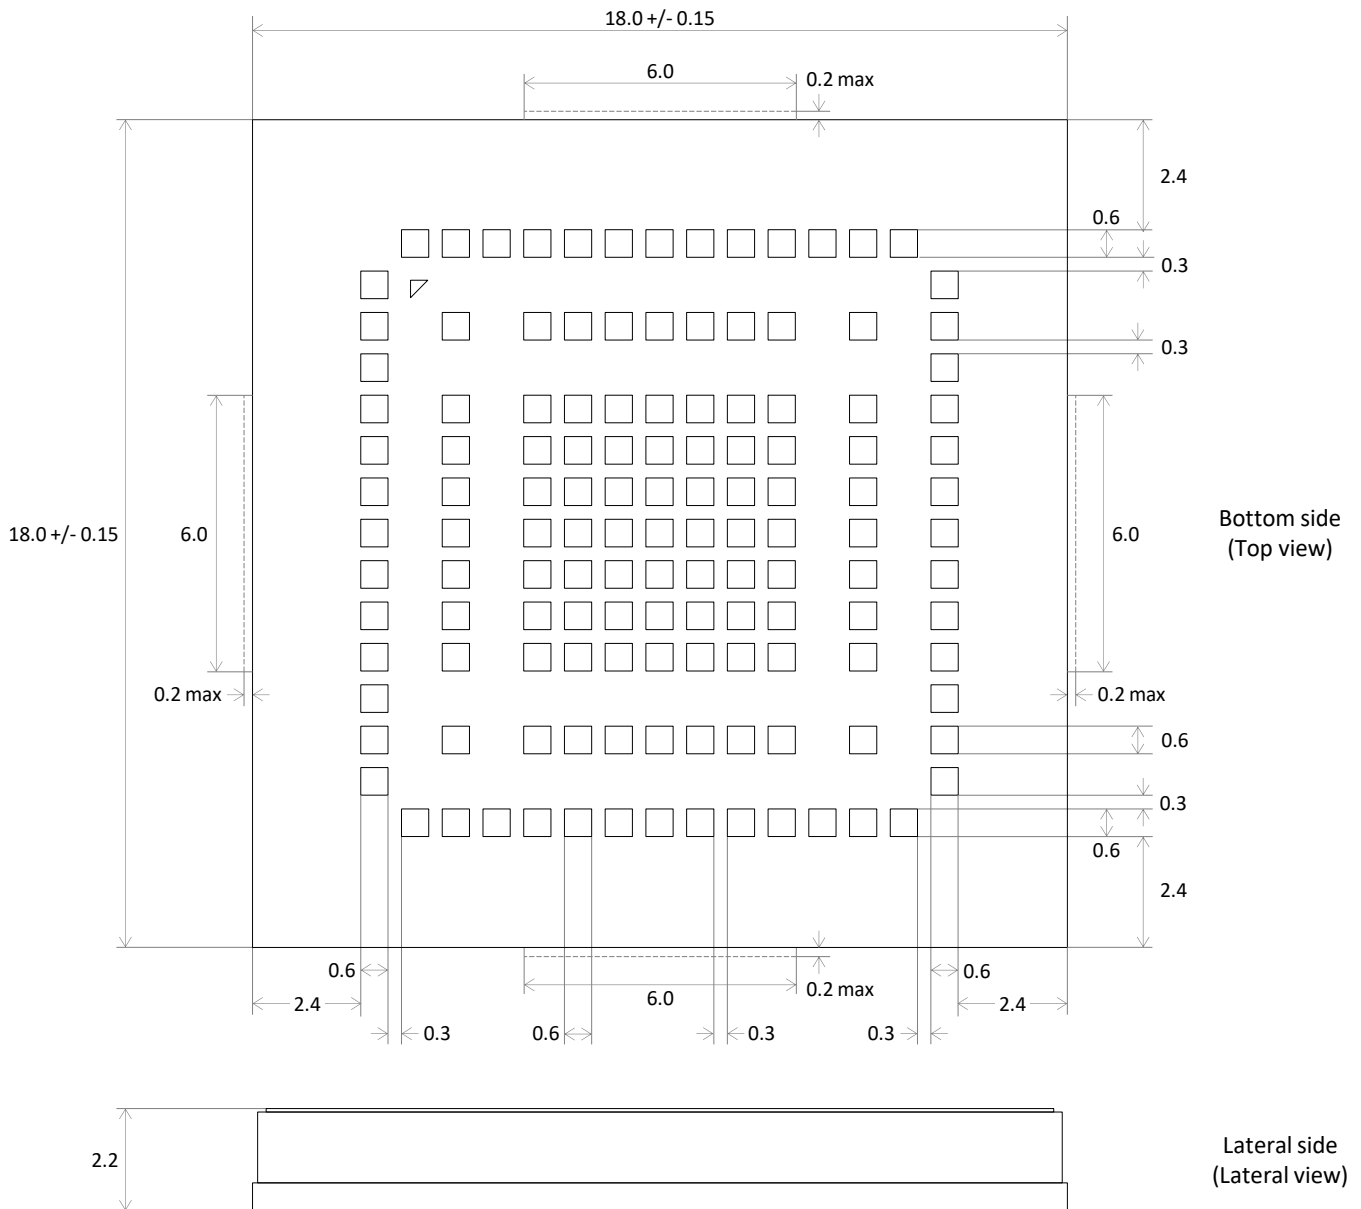

Figure 4: ADAM-R11 series dimensions, typical values [mm]
-  Actual side-to-side dimensions of the modules may exceed the corner-to-corner ones, as shown in Figure 4, due to some possible residual present after the PCB panel cutting process.